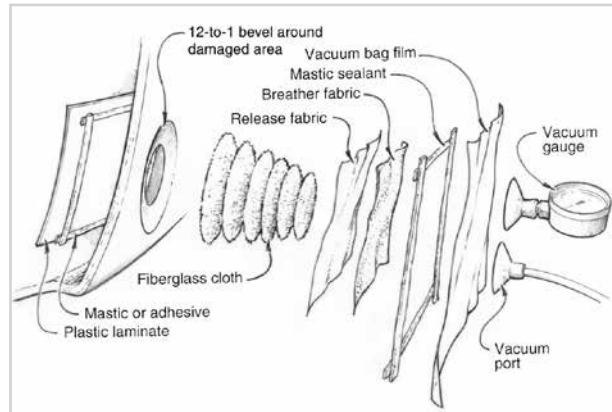

Figure 4-9 Smooth the patch and the release fabric in place. Lay the vacuum bag material over the patch, seal the bag and attach vacuum lines.
4. After smoothing the patch and release fabric in place, lay 882 Vacuum Bag Film or similar material over the patch (Figure 4-9). Remove the protective paper from the vacuum bag sealant and press the film into the sealant around the perimeter. The lay-up must be airtight. Vacuum leaks may create a resin-starved laminate or insufficient compaction.